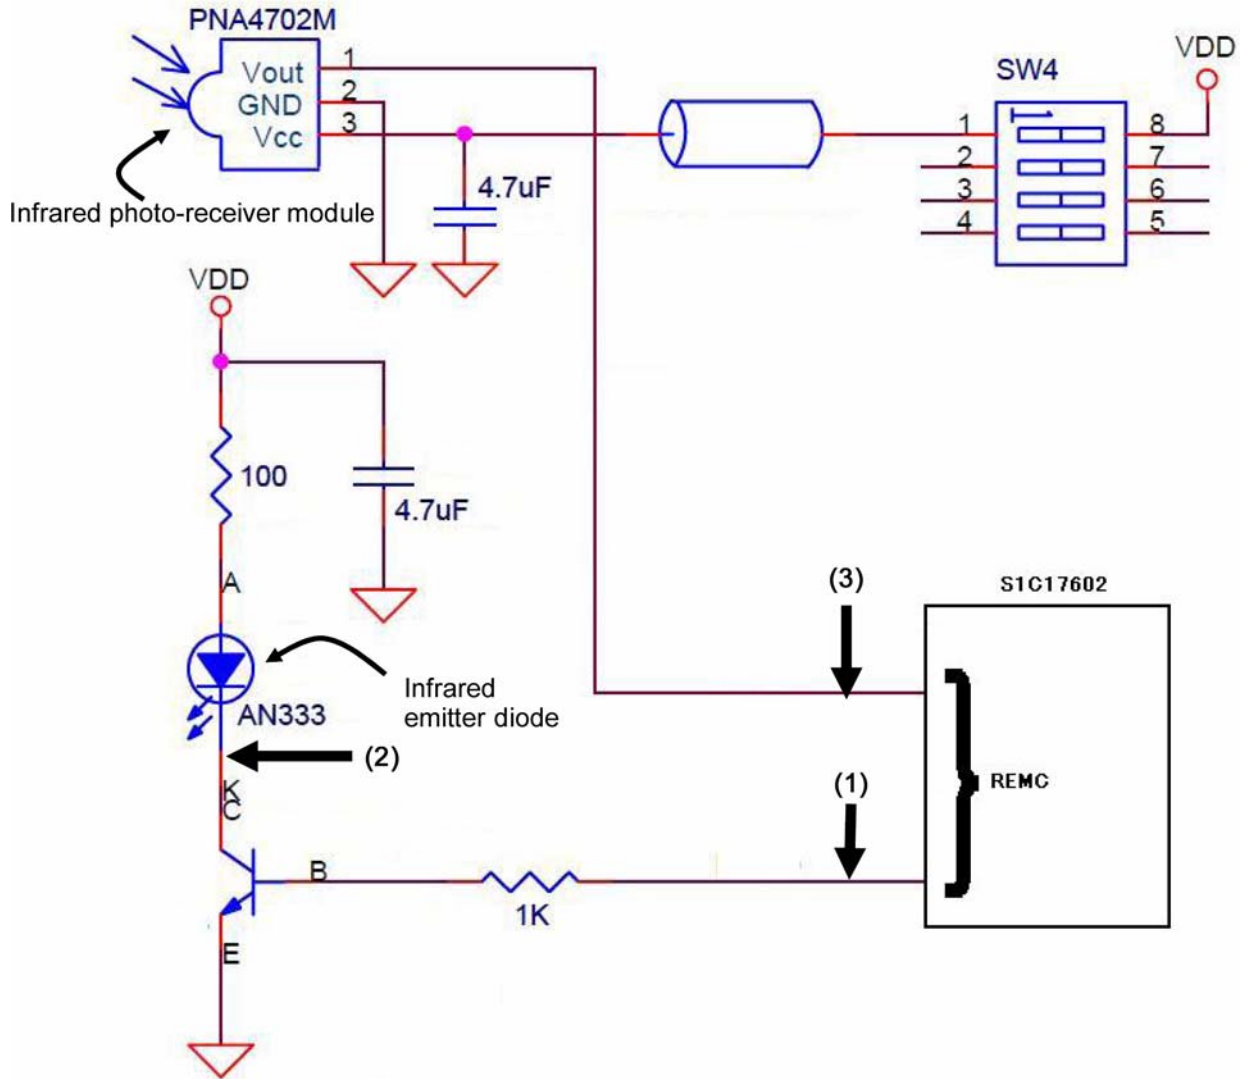

Figure 10.1 Infrared emitters/infrared photo-receiver module
The infrared emitters (AN333) and infrared photo-receiver module (PNA4702M) mounted on the SVT17602 CPU board are connected to the S1C17602 remote controller pins (P01/REMI and P00/REMO) as shown in Figure 10.1 below.
Figure 10.3 shows the waveforms observed for transmitted/received waveforms (1) to (3) in Figure 10.1 in this case.